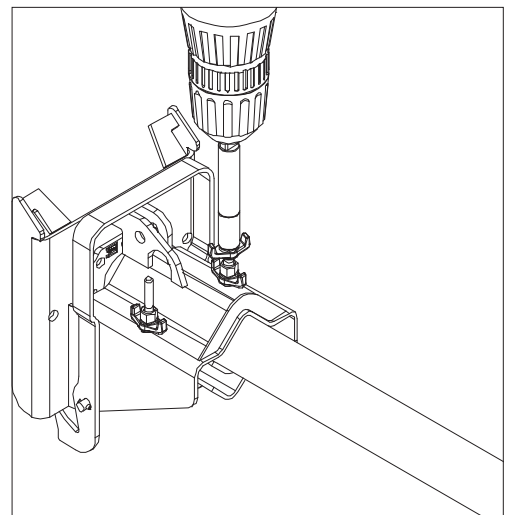

Fig. A2.03
- Fast assembly is possible with the Power Screwdriver (Item no. 072150) and Pipe Socket Wrench SW 20- $\frac{1}{2}$ " (Item no. 072200). (Fig. A2.03)